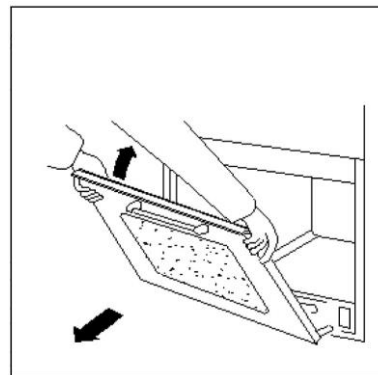

Figure 9
3. Grip the door on the two external sides, shut it slowly but not completely (See Figure 9)
4. Pull the door towards you, pulling it out of its seat (See Figure 9)